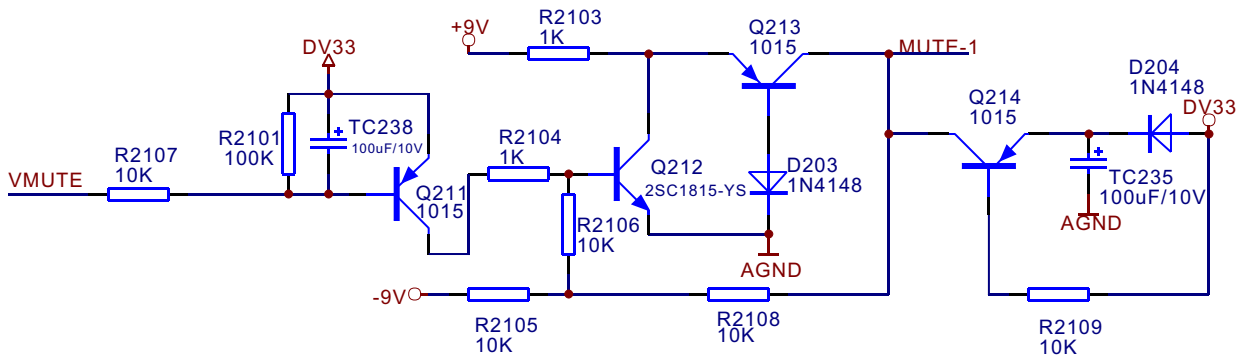

Figure 3.2.11.1 Mute circuit
1. Mute circuit is shown in the figure 3.2.11.1:
Shown in the figure 3.2.11.1, when the player is working normally, D204 is on, +5V charges capacitor Tc235 through D204, now voltage of Q214 emitter electrode is lower than that of base electrode, Q214 cuts off. When power off, +5V disappears, base electrode of Q214 changes to low level, And the emitter electrode changes to high level due to discharge of TC235, now Q214 is on, Q214 collector electrode (AMUTE) outputs high level to add to base electrode of switch pipe Q205 - Q210, switch pipe is saturated, noises that produce in the course of power off is bypassed to ground, that is power off quieting function is realised.